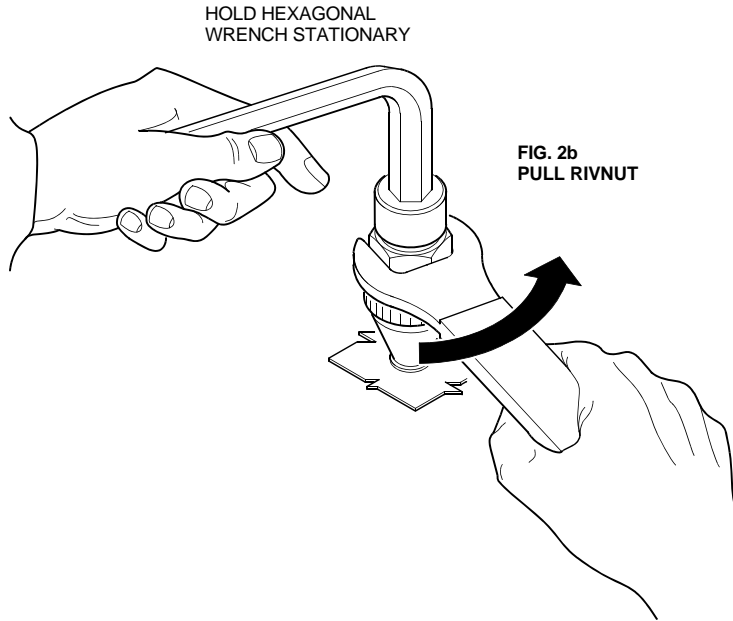

FIG. 2b
- (b) Pull the rivnut (Ref. Fig. 2b):